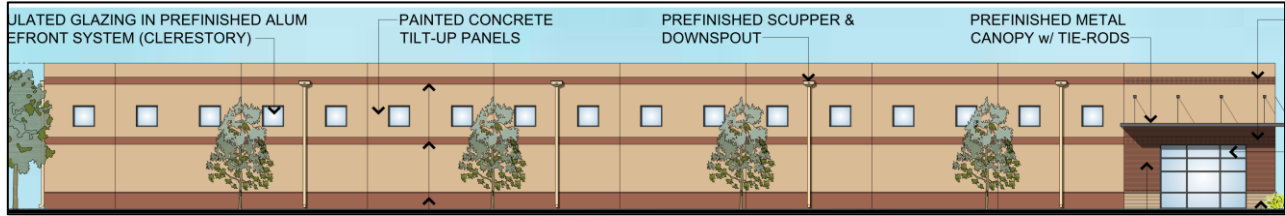
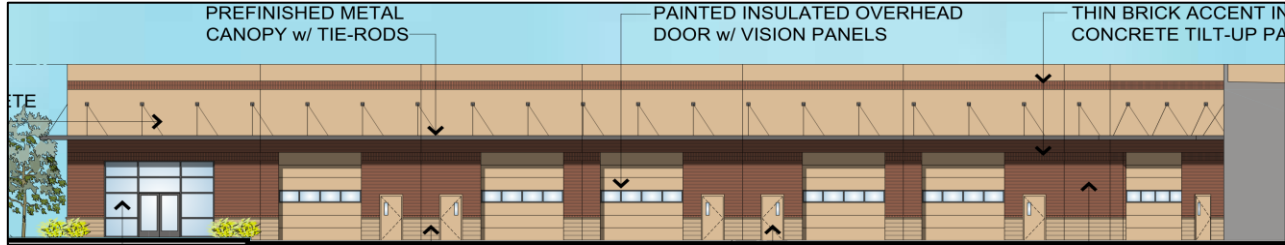

Figure 2: Exterior Elevation
Figure 3: Interior Elevation
The applicant is proposing two twenty-eight (28) foot one-story structures similar in height and scale with other existing structures within the development. Concrete tilt-up panels will be used with exterior elevations banded with complementary colors which visually reduce the overall height of the building. Example of the banding can be seen above in Figure 2. The interior of the elevations will utilize masonry bases and brick veneer in addition to the tilt-up concrete design. Figure 3 above represents the proposed interior elevation. The office corner in the lower right hand of Figure 2 indicates that the brick and masonry element is planned to wrap to the northern elevation signifying the entrance/office element of this planned structure. Mechanical equipment will be roof mounted and will be screened by a parapet.